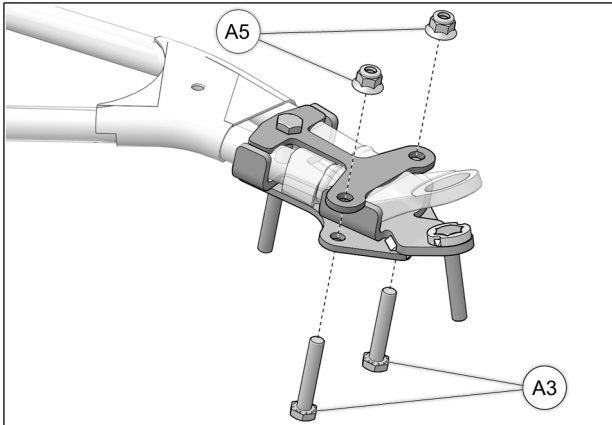

Fig. 16
7. Insert the M10x55 mm bolts (**A3**) through the bottom as shown below and secure the two parts together with the nuts (**A5**) provided. Tighten assembly to 50 N•m [37 lb•ft] of torque. See Fig. 16